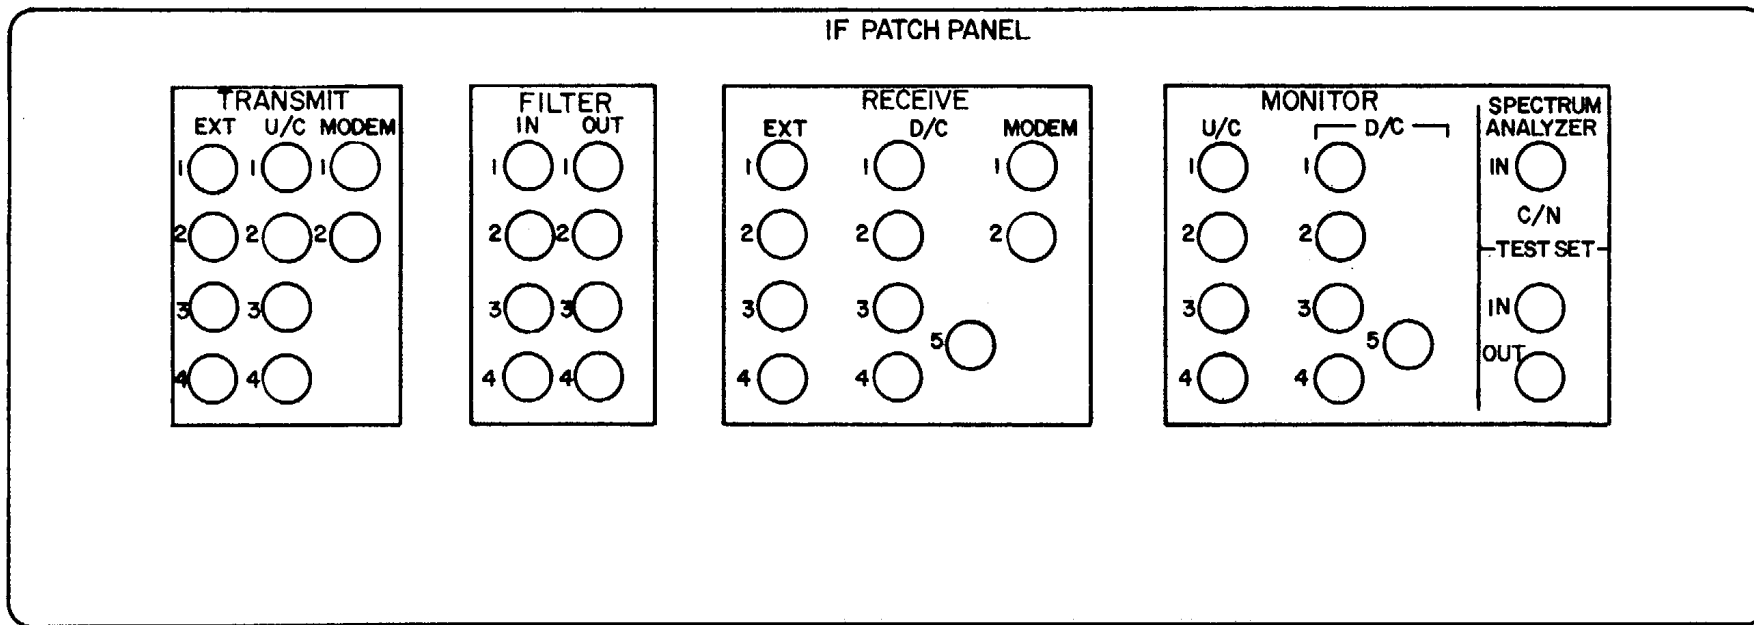

Figure 6-8. Communications Subsystem IF Patch Panel Appearances.
(5) *IF patch panel.* The IF patch panel, located in CSS rack 5 as illustrated in figure 6-4, provides the major interface between CSS and RSS equipments. Coaxial jacks terminate all IF signal ports from the various equipments, including the auxiliary IF port terminated on the IF/FREQUENCY STANDARD/TELEPHONE signal entry panel. The IF patch panel layout is illustrated in figure 6-8, and is designed to facilitate the use of looping plugs. A 20-dB coupler is in series with each upconverter and downconverter appearance. The secondary line on each coupler is routed to a monitor jack on the panel.